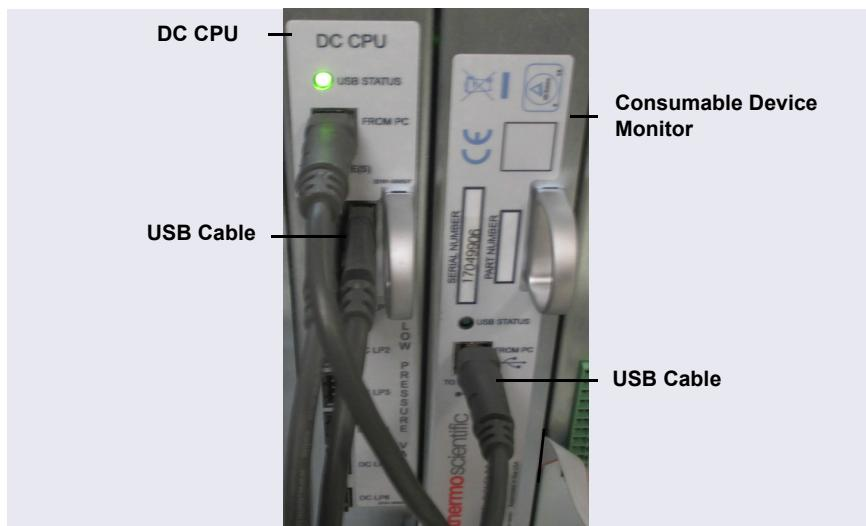

Figure 10-43. Dionex Consumable Device Monitor Connected to CPU Board
13. Locate the USB port on the Dionex Consumable Device Monitor and the two USB ports on the DC CPU board (see Figure 10-43).